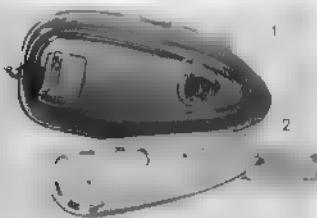

Fig. 4.43 Removing tank side cover
① Fuel tank ② Tank side cover
4. To remove the tank side cover ②, remove the two screws on the emblem and then unscrew the side cover bolt. Slide the cover forward to remove. (Fig. 4.43)